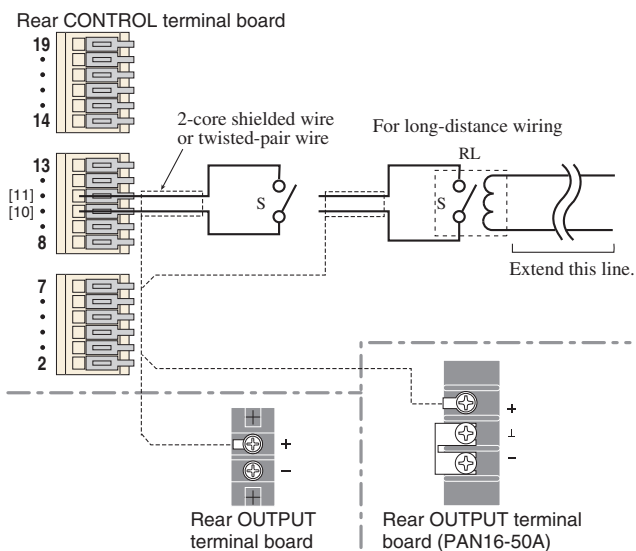

Fig.4-16 Output ON/OFF control connection
3. Connect the contact points S (switch) across the control terminals [10] and [11] as shown in Fig.4-16.